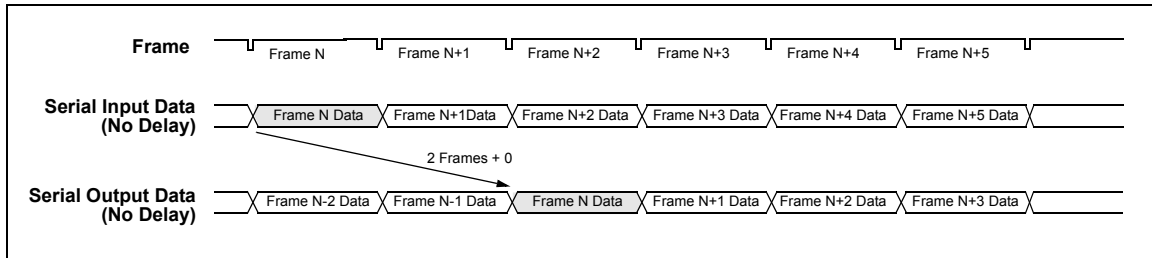

Figure 21 - Data Throughput Delay when input and output channel delay are disabled for Input Ch0 switched to Output Ch0
By default, when the input channel delay and output channel delay are set to zero, the data throughput delay (T) is: $T = 2 \text{ frames} + (m-n)$. Figure 21 shows the throughput delay when the input Ch0 is switched to the output Ch0.